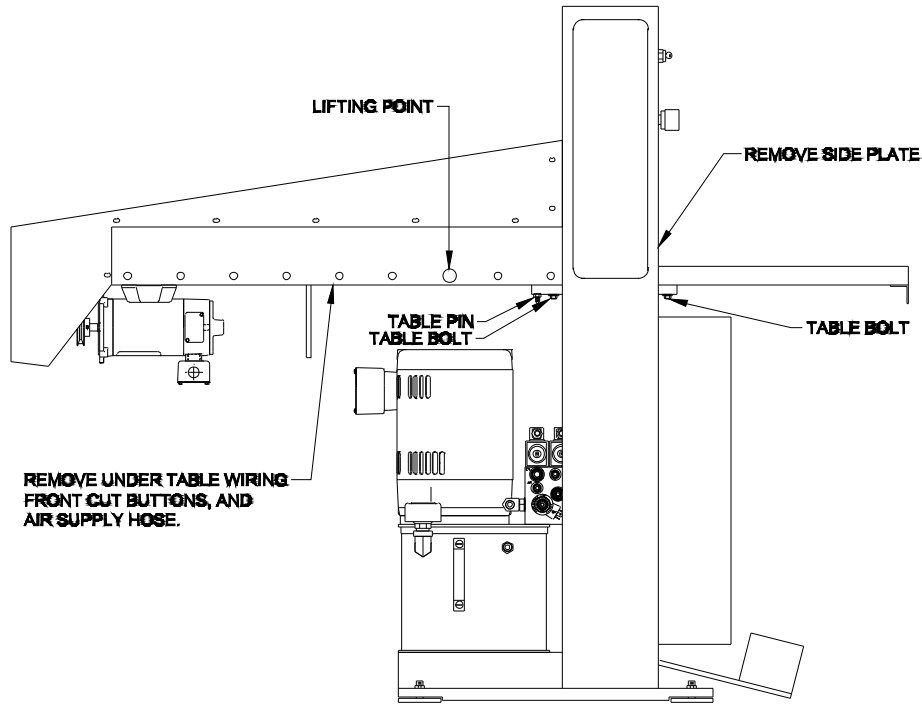

Fig. 2
2. Locate and disconnect the wiring listed below. Fig. 2. Not all the wiring listed will be on each cutter.
- G. Digital Molex Plugs. Two (2) plugs are located under the table close to the main frame.